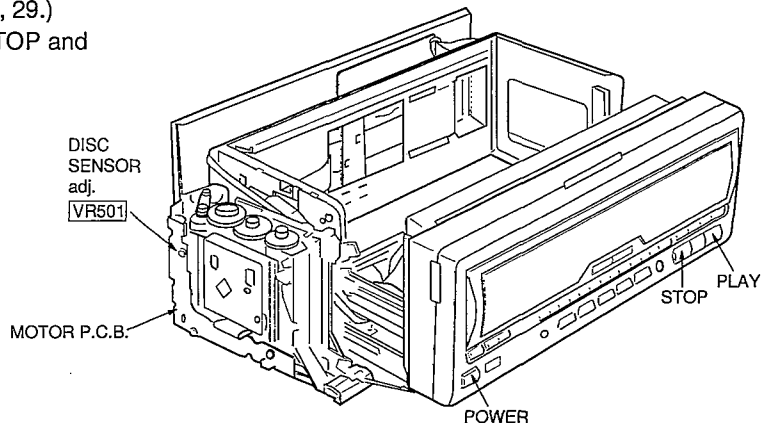

Fig. 1
1. Remove the loading unit as shown in Fig. 1.